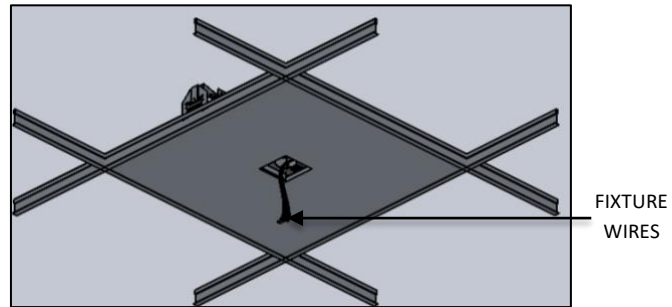

FIG. 27 - ASSEMBLED VIEW SHOWING RECESSED J-BOX TO THE CEILING
**CAUTION: Make sure FIXTURE WIRES from DRIVER are capped while waiting to install fixture as shown in FIG. 27.**